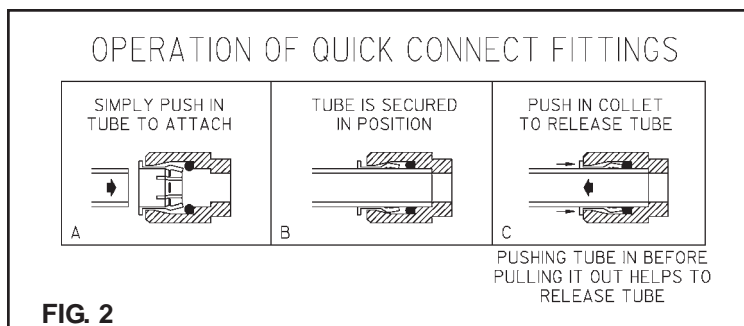

FIG. 2
9. Connect fountain to supply line with a shut-off valve and install a 3/8" unplated copper water line between the valve and the cooler. Remove any burrs from outside of water line. Push the tubes straight into the fittings until they reach a positive stop, approximately 3/4" (See Fig. 2). **DO NOT SOLDER TUBES INSERTED INTO THE STRAINER AS DAMAGE TO THE O-RINGS MAY RESULT.**
Fountain is provided with lead-free connectors which utilize an o-ring water seal. To remove tubing from the fitting, relieve water pressure, push in on the gray collar while pulling on the tubing. (see Fig.2) To insert tubing, push tube straight into fitting until it reaches a positive stop, approximately 3/4".